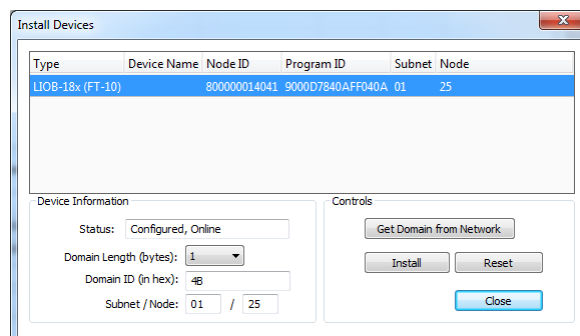

Figure 118: Install devices dialog
4. Click the **Install** button. This opens the **Install Devices** dialog as shown in Figure 118.